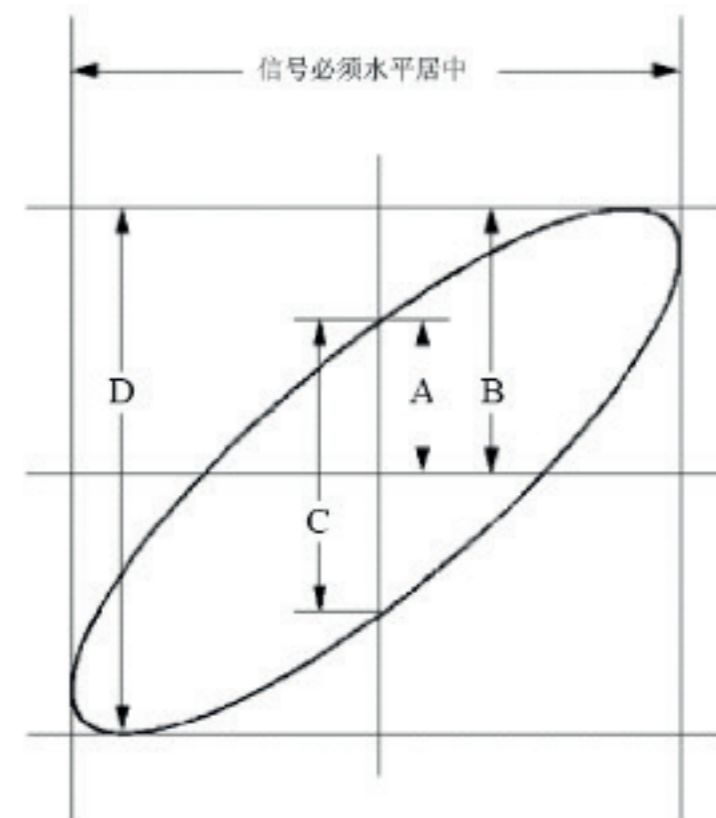

Figure 6-6 Lissajous Graph
8. With the elliptical oscillogram method adopted, observe and calculate the phase difference (see Figure 6-6).